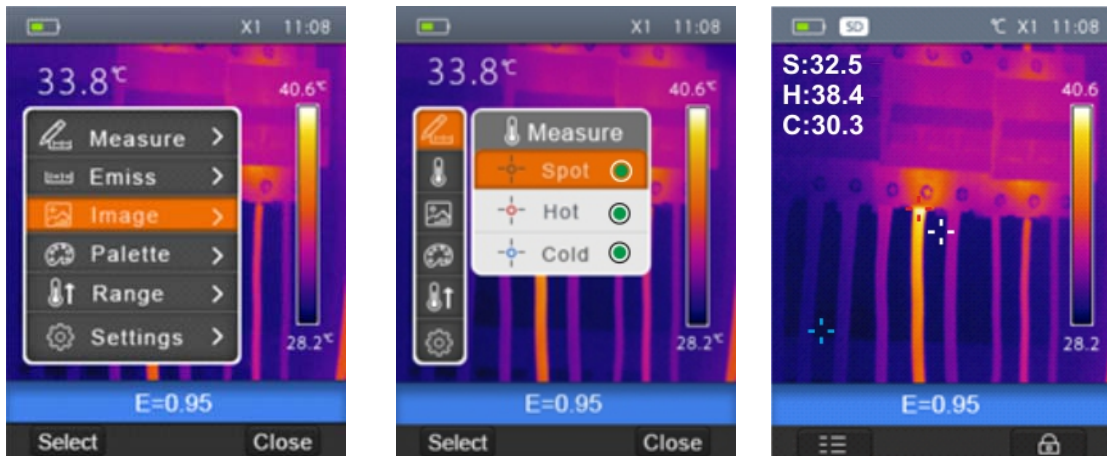

Fig. 16: Setting of measuring cursors
1. Select the item “Measurement” with the keys \oplus or \ominus and press the key . The screen Fig. 16 – Right side is shown on the display.